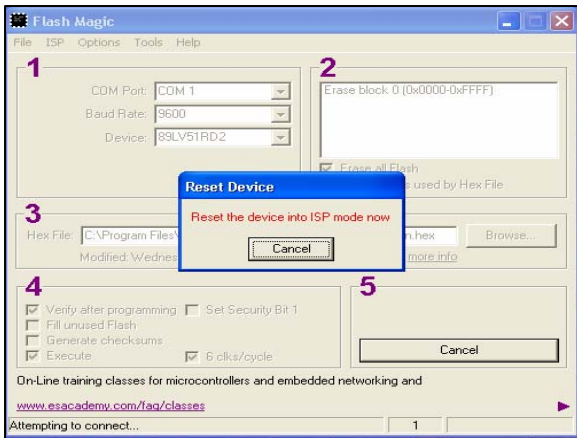
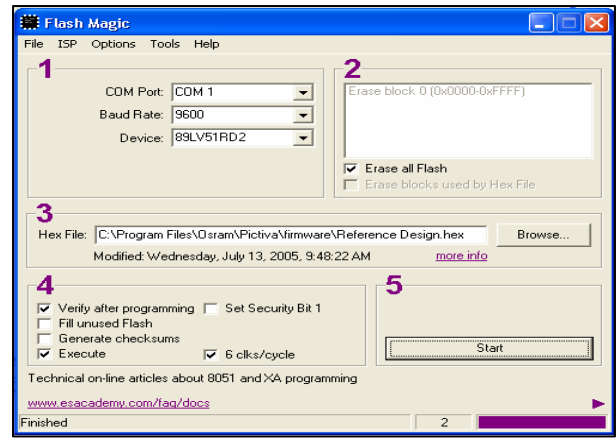

Figure 7a
Figure 7b
4. Reset Device will appear as Figure 7a. Switch ON the Reference Design Controller board. Automatically it would download the hex file to the IC until finished as the Figure 7b.